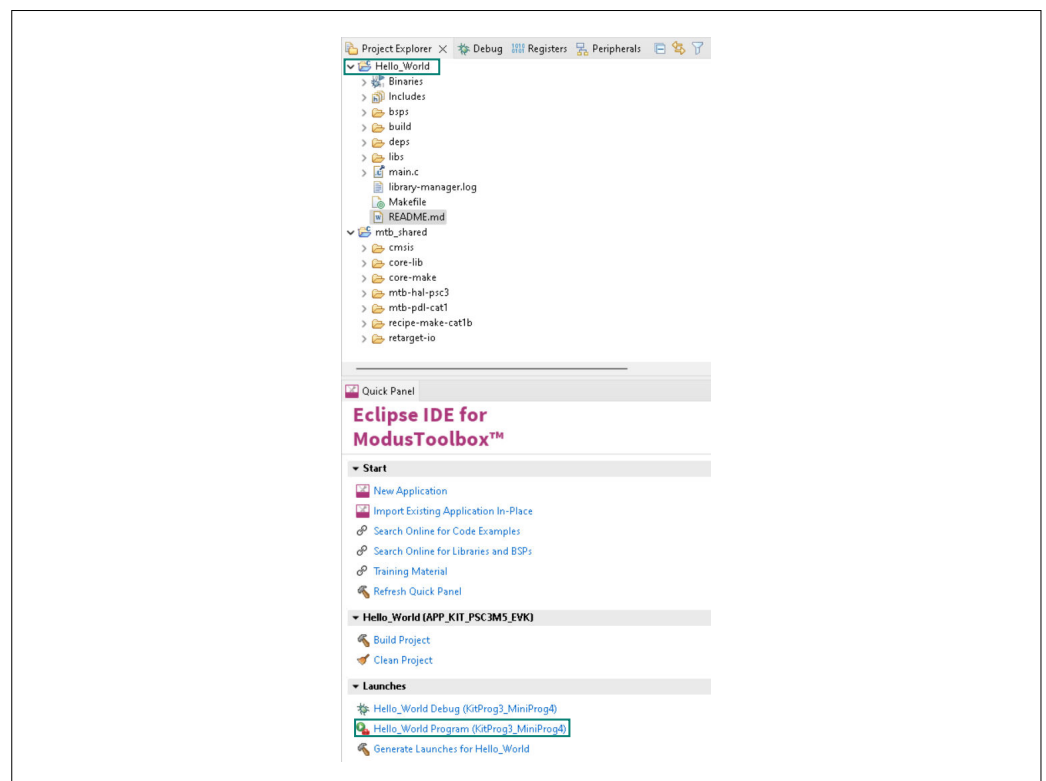

Figure 15 Programming an application to a device
- b. Select the application project and click on the **Hello_World Program (KitProg3_MiniProg4)** shortcut under the **Launches** group in the Quick Panel, as Figure 15 shows. The IDE will select and run the appropriate run configuration. Note that this step will also perform a build if any files have been modified since the last build.